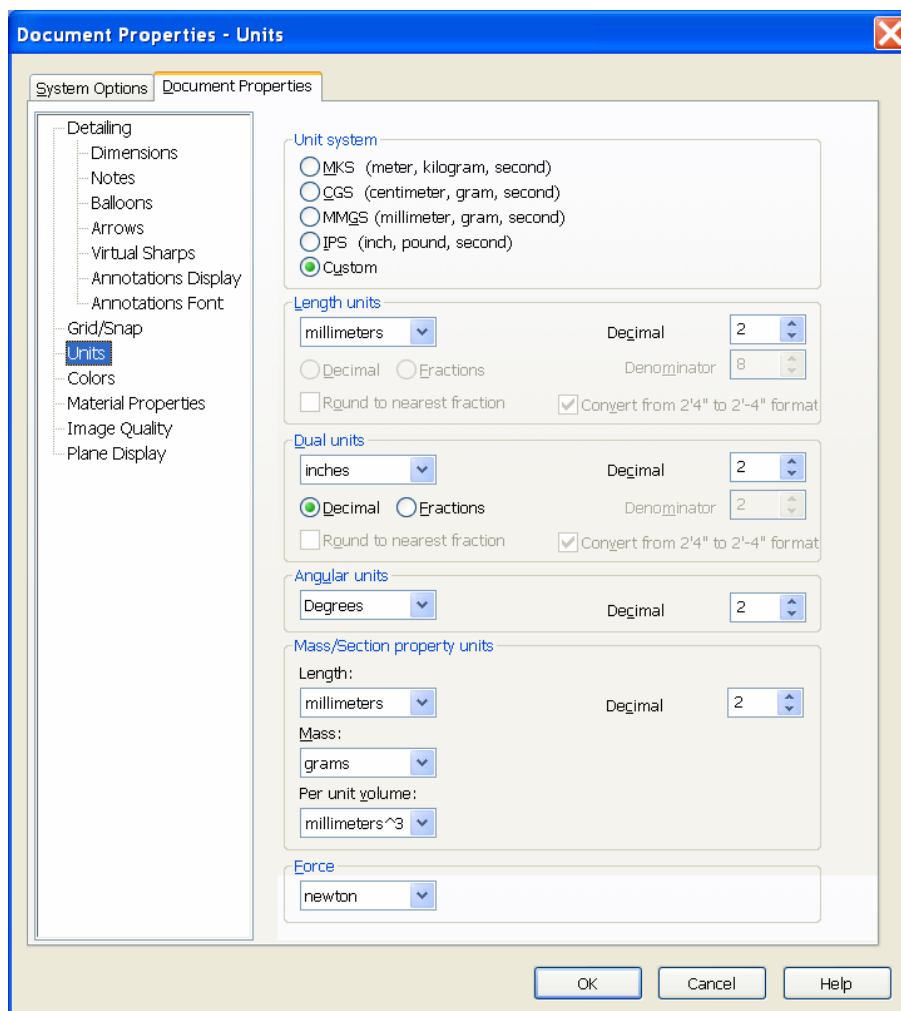

Figure 3 Units selection
- 8) Select **Millimeter** and set the decimal places to **2** as shown in Figure 3. The available units are Millimeters, Centimeters, Meters, Inches, Feet, Feet, Inches, etc.